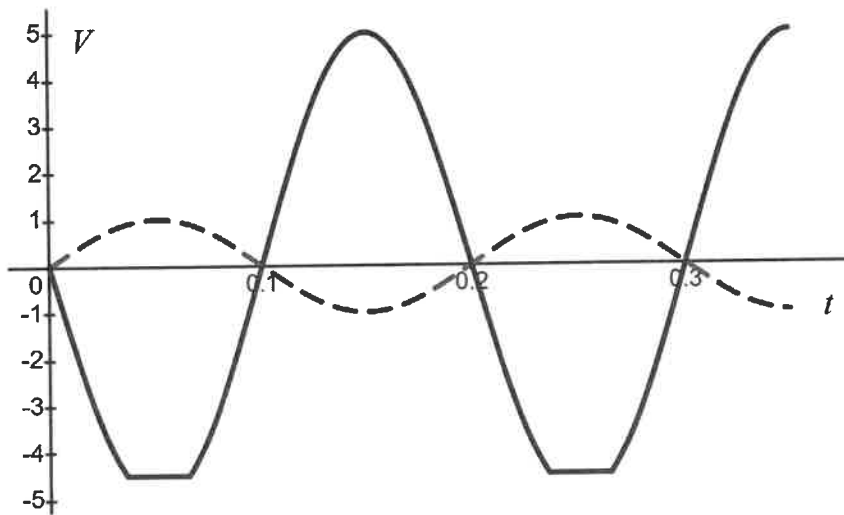

Figure 3: Input/Output signals for an amplifier circuit.
Figure 3 shows the output signal of an amplifier circuit when it is connected to a given input signal.
a) Name a piece of equipment that displays Figure 3.
b) Name the piece of equipment that may have been used to provide the input signal in Figure 3. Then, describe the input signal in terms of its shape, peak-to-peak voltage, and frequency.
c) State the type of distortion shown in Figure 3, and detail a possible way in which the amplifier circuit might be adjusted so that the distortion is removed.